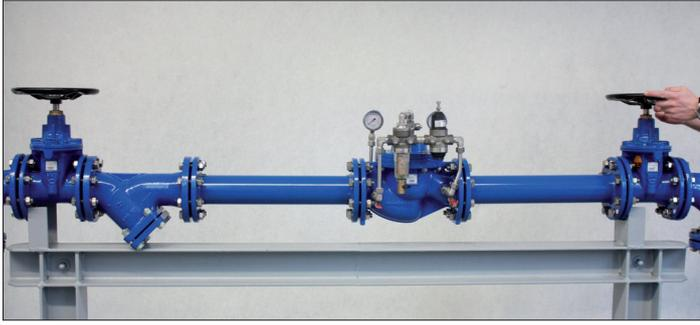

Figure 12: Complete opening of the upstream pressure valve and partial opening of the downstream-pressure valve
9. Now the upstream pressure shut-off valve is opened completely. Before the downstream pressure can be adjusted, the adjustment screw on the pilot valve must be completely unfastened again after filling (see step 2). Afterwards, the downstream-pressure shut-off valve is partly opened (2 – 4 turns; see Figure 12). The pressure-reducing valve should now be closed. Now possibly the static downstream pressure from the plant is present.